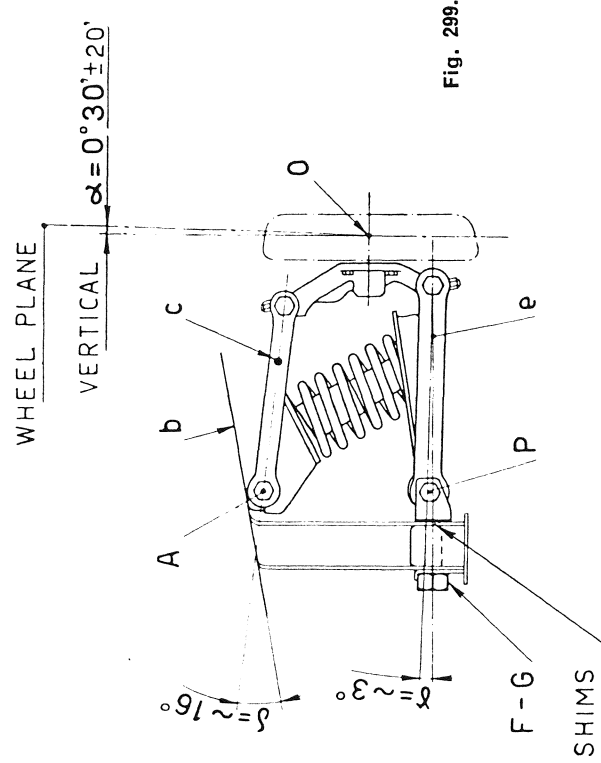

Fig. 299.
— the tightening of upper swinging arm pin nuts (A, figs. 299-300), when angle δ formed by planes « b » and « c » equals approximately 16° (fig. 299);
— the tightening of lower swinging arm pin nuts (D, fig. 300), when angle γ formed by plane « e » with the axes of screws F and G equals approximately 3° (fig. 299).
Camber angles (α , fig. 299) and caster angles (β , fig. 298) are adjusted by interposing shims (figs. 299-300) on screws (F and G) between lower swinging arm supports and body bottom.
- to increase angle α (fig. 299): reduce the number of shims on both screws F and G (fig. 300); to reduce the angle, increase the shims;
- the distance between axes of pins (P, fig. 299) and ground (measured at front end of vehicle) must be approximately 8.26" (210 mm);